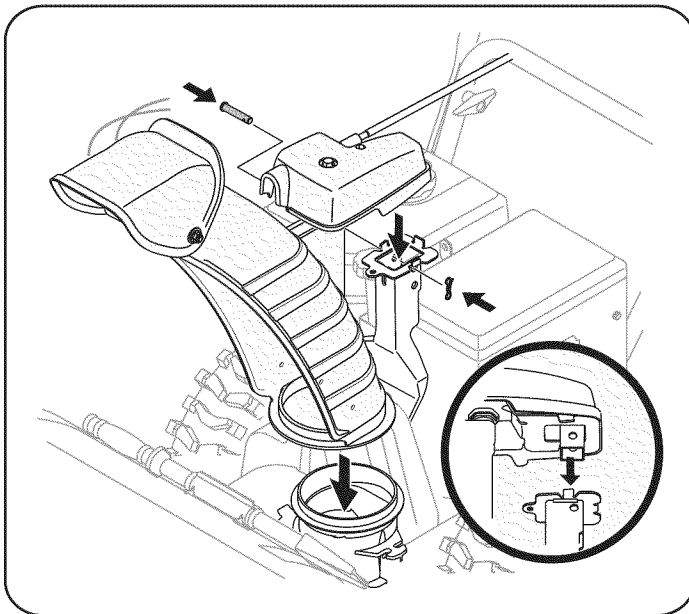

Figure 5
4. Place chute onto chute base and ensure chute control rod is positioned under handle panel. Secure chute control head to chute support bracket with clevis pin and bow-tie cotter pin removed in Step 2. See Figure 5.